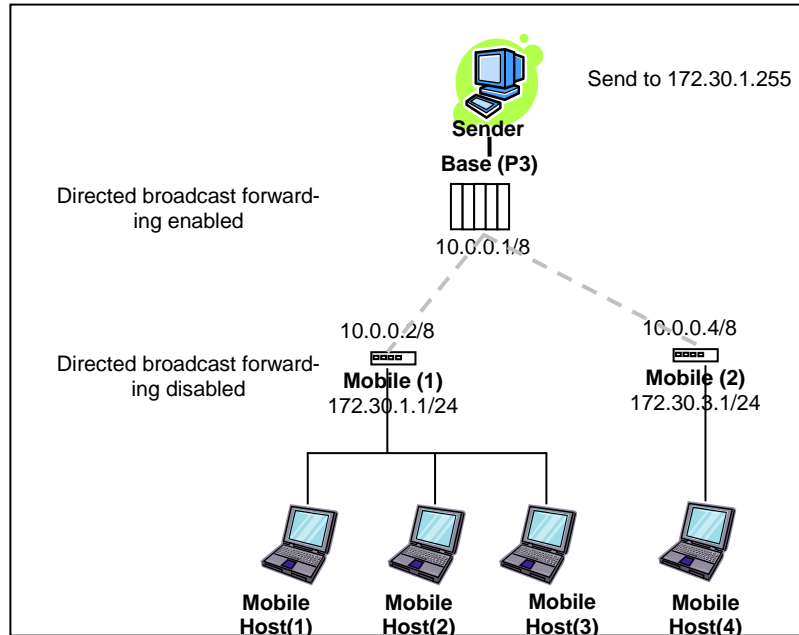

Figure 44 - Example of Directed broadcast forwarding disabled
In this example (Figure 44), directed broadcast forwarding is enabled on the **Base** unit and disabled on the **Mobile (1)** unit. If **Sender** sends a packet to destination address 172.30.1.255, the packet would be discarded by **Mobile (1)**, it would not reach **Mobile Host (1)**, **Mobile Host (2)** and **Mobile Host (3)**.